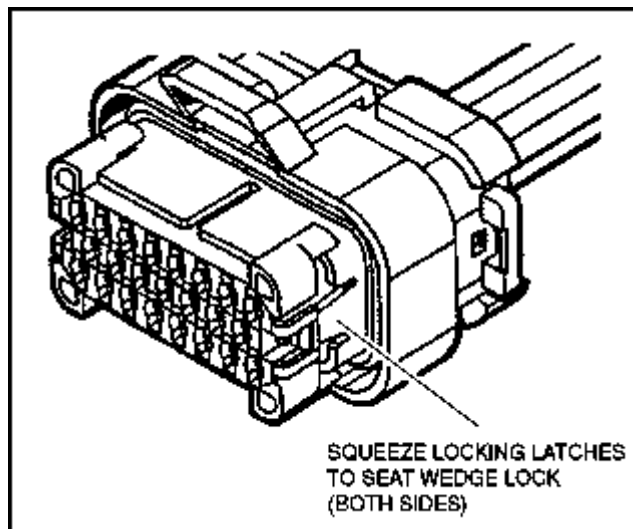

Figure 7-8. Connector Assembly Figure 3
3. After all required contacts are inserted, close wedge lock to its locked position. Release locking latches by squeezing them inward (See Figure 7-8.).